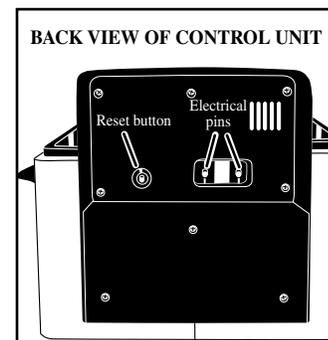

Fig. A2
The deep fryer is equipped with a sensor which will automatically shut the unit off if it is overheated. Overheating can occur if the unit is heated without oil or water or with insufficient oil or water. It can also occur if using solid fat or older oil that has become thick. Should the unit shut off, unplug and allow the unit to cool. Correct the cause of overheating. Then with the tip of a pen, press the red RESET button on the back of the control unit (Fig. A2). The unit will not operate until it is reset.
5. Attach the cord to the unit by aligning the magnetic plug end with the two electrical pins located on the back of the control unit (Fig. A2, page 2). The plug can be attached in either direction.
3. The reset button may have tripped. The deep fryer is equipped with a sensor which will automatically shut the unit off if it is heated without oil or water or with insufficient oil or water. Older oil that has become thick and solid fats may not conduct heat well and may also cause the sensor to trip and the unit to shut off. Should any of these things occur, unplug and allow the unit to cool. Correct the cause of overheating. Then with the tip of a pen, press the red RESET button on the back of the control unit (see Fig. A2, page 2). The unit will not operate until it is reset. Before plugging the unit back in, make sure there is sufficient oil or water in the fryer, or if the oil is old, replace the oil with fresh oil.